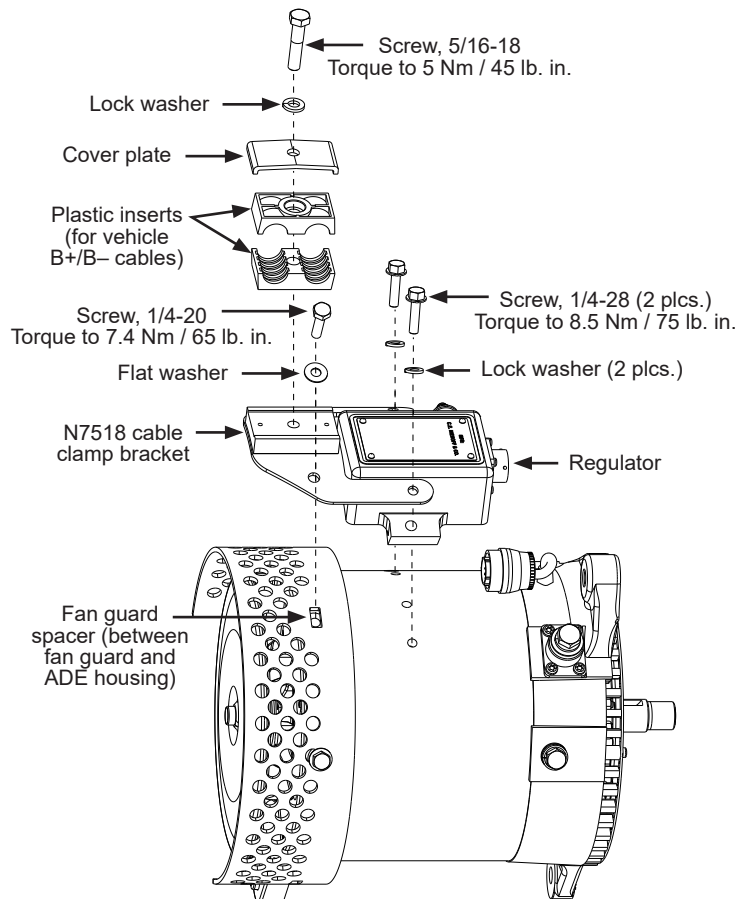

Figure 11: Regulator Installation with N7518 Bracket
- Remove screw and flat washer from fan guard location as shown in Figure 11. Make sure spacer between fan guard and ADE housing doesn't fall into alternator.
- Place regulator on shell with N7518 bracket positioned on top as shown in Figure 11. Fasten regulator and bracket to shell with the two 1/4-28 screws and lock washers included with the regulator. Torque screws to 8.5 Nm/75 lb. in.